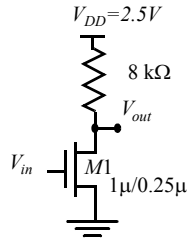

Figure 0.7 MOS circuit.
- [M, SPICE, 3.3.2] Problem 11 uses the MOS circuit of Figure 0.7.
17. [M, None, 3.3.3] Compute the gate and diffusion capacitances for transistor *M1* of Figure 0.7. Assume that drain and source areas are rectangular, and are $1 \mu\text{m}$ wide and $0.5 \mu\text{m}$ long. Use the parameters of Example 3.5 to determine the capacitance values. Assume $m_j = 0.5$ and $m_{jsw} = 0.44$. Also compute the total charge stored at node *In*, for the following initial conditions:
- For the circuit of Figure 0.7, calculate nominal, minimum, and maximum currents in the NMOS device with $V_{in} = 0 \text{ V}$, 2.5 V and 5 V . Assume 3σ variations in V_{T0} of 25 mV , in k' of 15% , and in lithographic etching of $0.15 \mu\text{m}$.